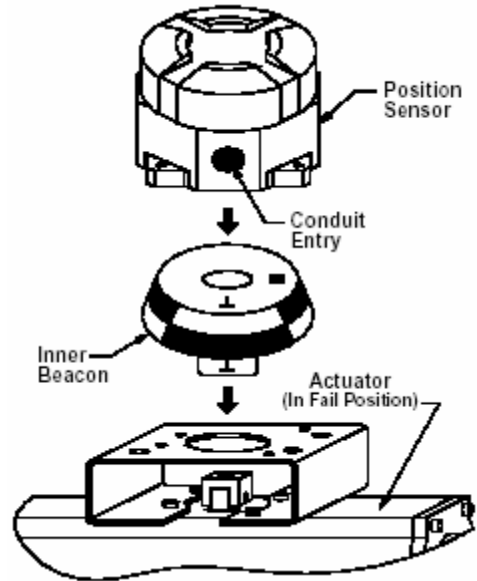

Figure 8
- 8.2.2. Press fit the inner beacon to the inner beacon coupler. The inner beacon needs to be properly oriented. Use the symbols on the top of the inner beacon to mount as shown in Condition 1 or Condition 2 (See Figure 8 and 9).